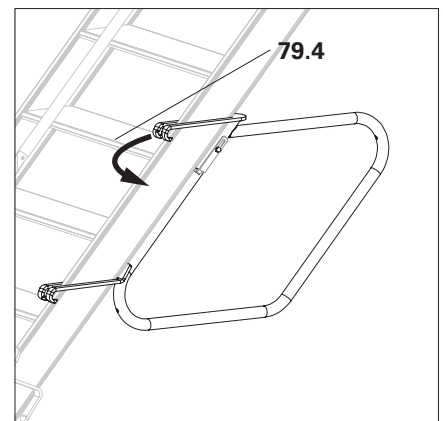

Fig. A8.07b
2. Lower the stair guardrail to the step and pull the mounting rings all the way to the front edge of the step (**79.4**). (Fig. A8.07b)